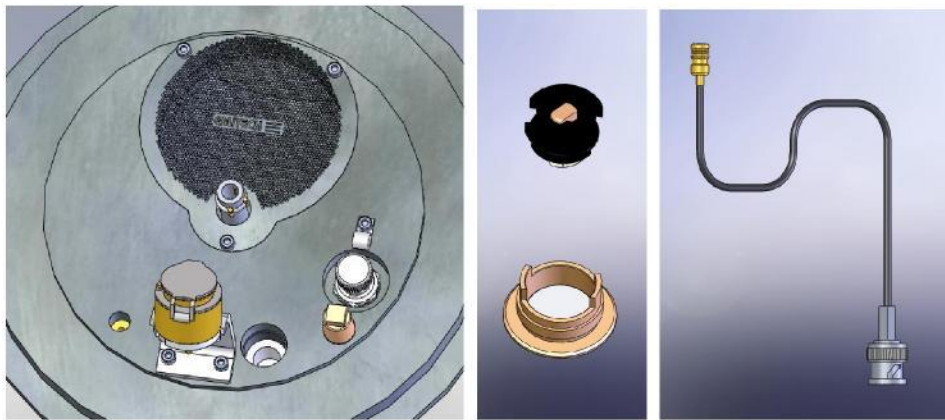

Figure 7-13. FTM (left); replacing the FTM crystal (centre); FTM lead (right)
4. Fit the FTM assembly to the base plate with two M3 x 8 socket cap screws (see Figure 7-13).
The crystal cover (see Figure 7-13) may be removed completely for cleaning or if the FTM is in continual use.
5. Unscrew the top cap of the crystal holder and withdraw (see Figure 7-13).